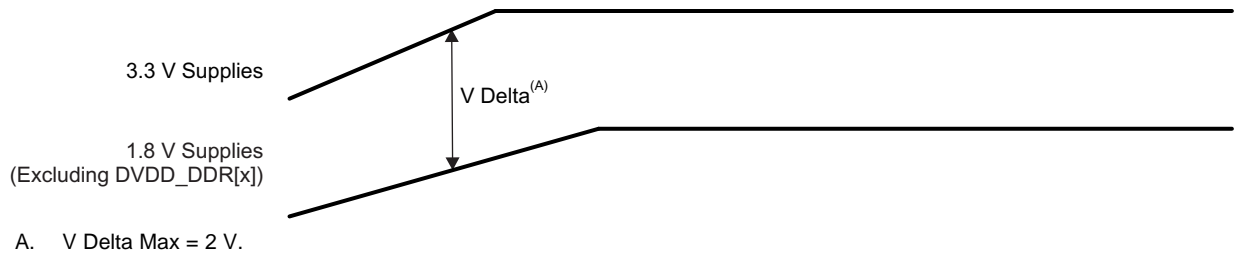

Figure 7-2. 3.3 V Supplies Rising Before 1.8 V Supplies Delta
(1) The 3.3 V supplies **must** never be more than 2 V above the 1.8 V supplies (see Figure 7-2).
(2) The 1.8 V supplies **must** be \geq 1.5-/1.8-V DVDD_DDR[x] and CVDD, CVDD_x variable supplies.
- (1) The 1.8 V supplies **must** be \geq 1.5-/1.8-V DVDD_DDR[x] and CVDD, CVDD_x variable supplies.
- (2) The 3.3 V supplies **must** never be more than 2 V above the 1.8 V supplies (see Figure 7-2).